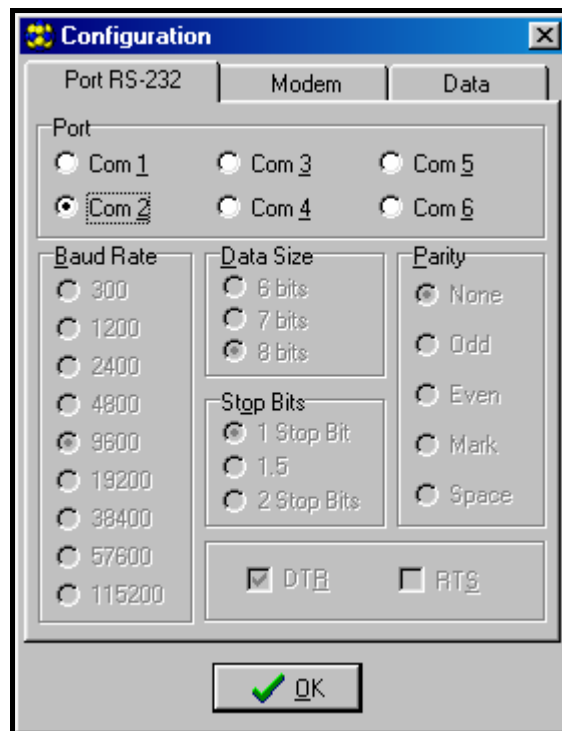

Figure 10.
2. Enter the options of module communication settings by clicking on the  icon (or through the **Communication→Configuration** menu) and select the port through which the computer connects with the module RS-232 port (see: Fig. 10).